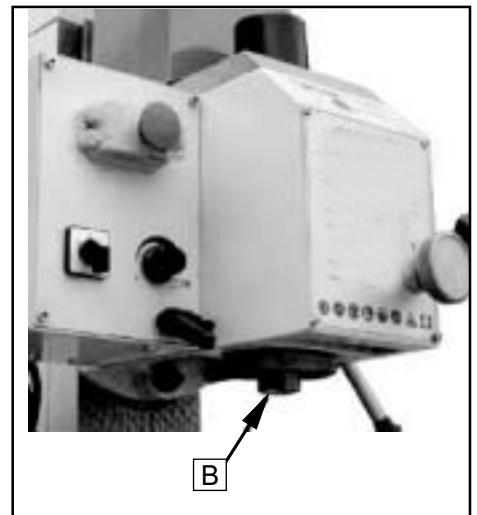
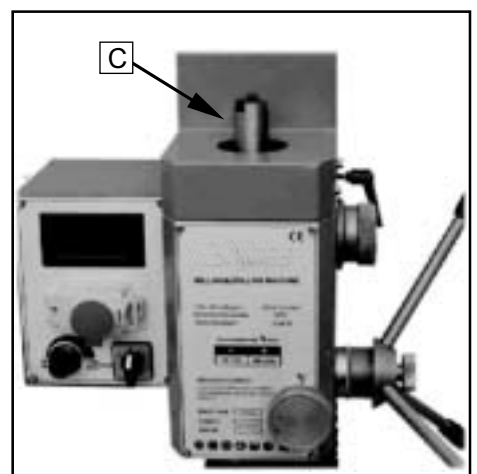

Fig. 57
Fig. 58
3. Hold the flat of spindle (B, Fig. 57) to keep it from moving while loosening the drawbar (C, Fig. 58) with the 22-25 spanner in toolbox.